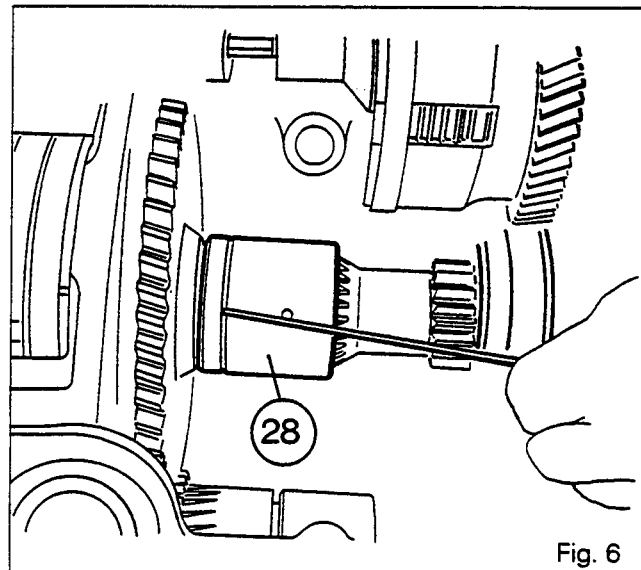

Fig. 6
39. Refit the gear (31).
40. Refit the circlip (30).
41. Reattach the fork, the sleeve assembly, the connecting shaft and the coupler. Position the slot of the sleeve (28) fitted on the driving gear as shown Fig. 6. Replace the pins. Adjust the fork (see 5 D01.A)
42. Refit the gear (31).
43. Refit the circlip (30).
44. Refit the assembly (connecting shaft and sleeves), then position the sleeves (27) and (28) on the shaft (29) (Fig. 6).
45. Mount the double pins (26) and (25) on the sleeves.
Note: Position the grooved end of the sleeve (28) towards the rear of the tractor (Fig. 6). Replace the pins. The long pin is fitted into the sleeve (27).